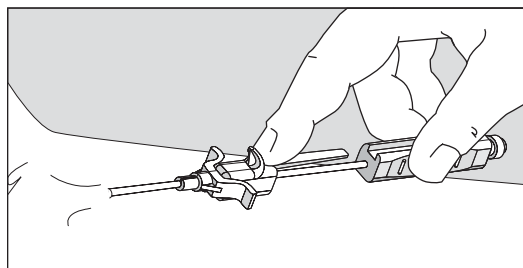

Figure 20
- Advance sharps-protected peel-away sheath over needle introducer into vein to a desired length by using index finger on push-off tab to stabilize needle protector while pulling back on needle hub until needle protector activates over needle bevel (refer to Figure 20).